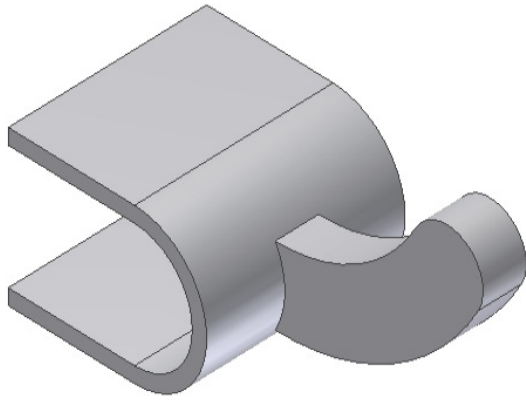

Figure 7-49 The isometric view of the model
- b. Define a new sketch plane on the XZ plane and add the first join feature to the circular face of the base feature, refer to Figure 7-49.
2. Exit the sketching environment and then extrude the sketch of the first join feature to a distance of 12 mm using the **Join** operation. Use the **Symmetric** option for creating the feature. The isometric view of the model is shown in Figure 7-49.